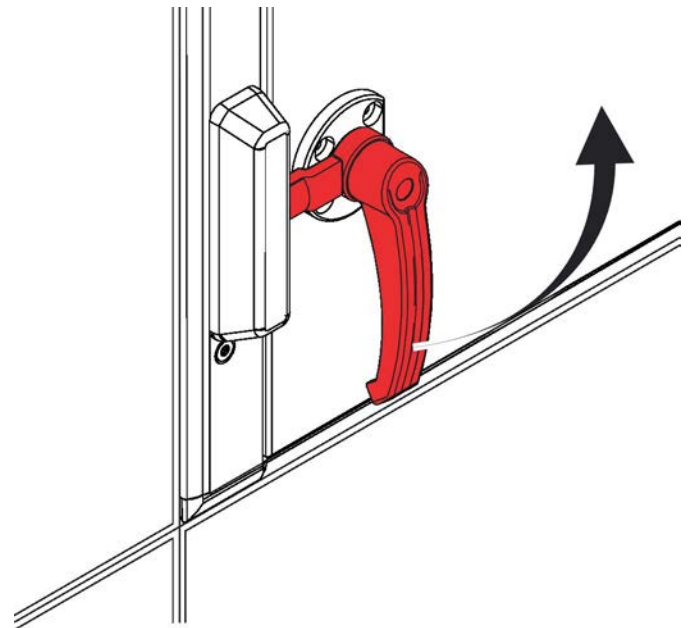

Fig. 40: Opening a door lock
- ▶ Turn the door handle anti-clockwise by 90° ( Fig. 40 ).